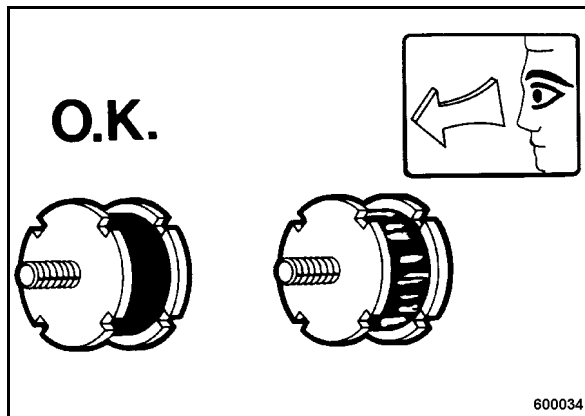

Fig. 75
- Check all rubber buffers (Fig. 75) for tight fit, cracks and damage and replace immediately if damaged.